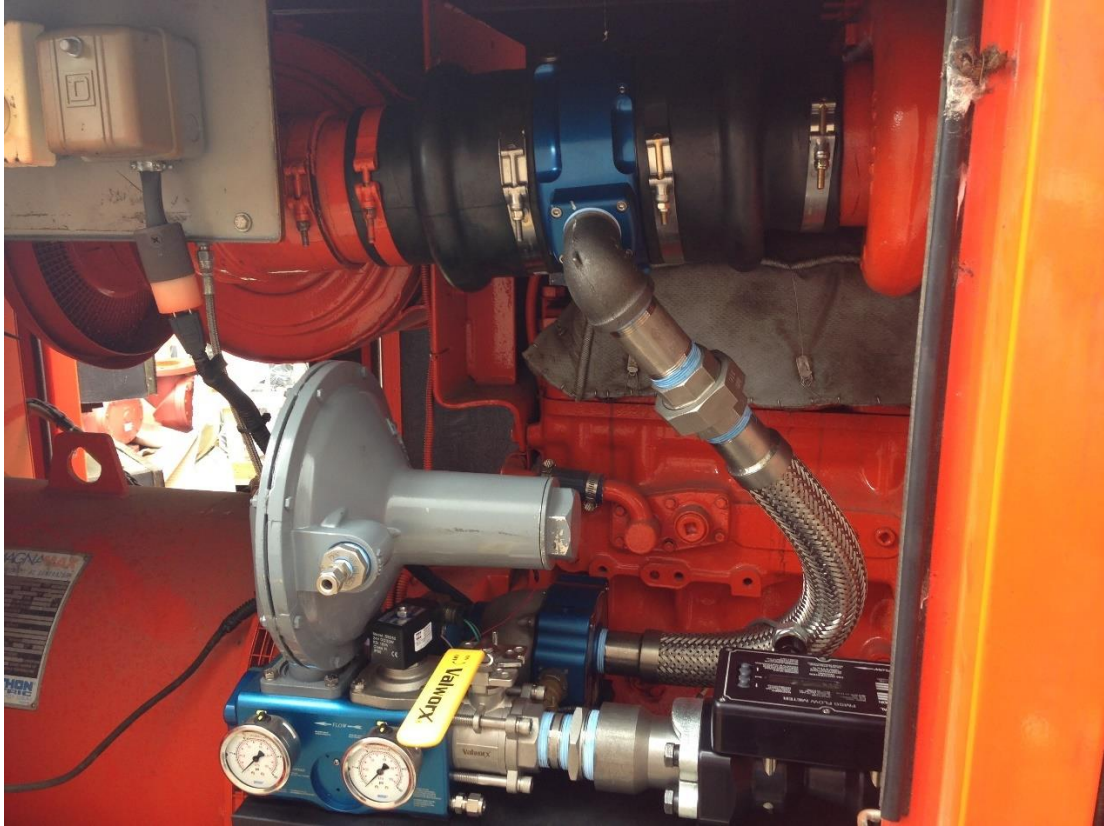
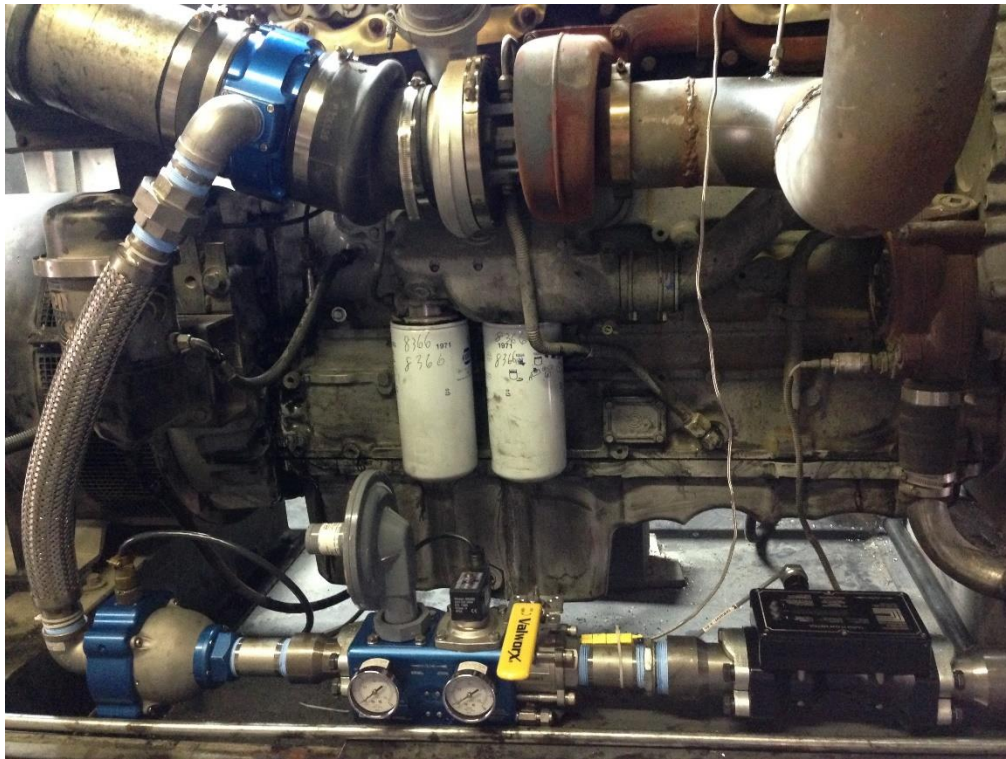

Figure 5: Installation Illustration
Figure 6: Installation Illustration
5. Use rubber sleeves and fasteners to secure the Venturi to the desired location on the air intake manifold. Be aware of the direction of air flow conveyed by the arrow on the side of the Venturi. The Venturi should also be oriented such that the gas inlet is facing downward (Figure 5 & Figure 6).